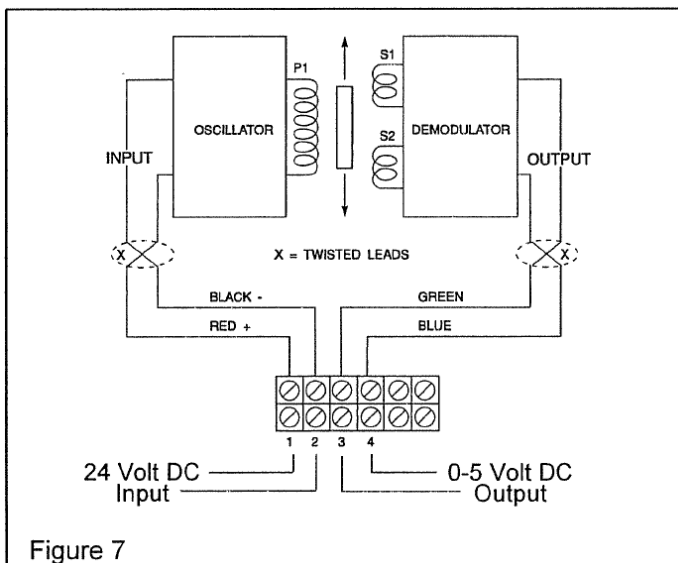

Figure 7
4. Observing correct polarity, connect the input power leads to bottom Terminal 1 and 2 on the Terminal Board. (For correct polarity refer to Figure 7)
2. Connect a voltmeter to Terminal 3 and 4 at the top of the Terminal Board (See Figure 7).